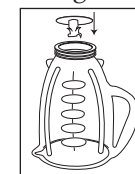

Fig. 2
2. Place blade into jar. (Fig. 2)